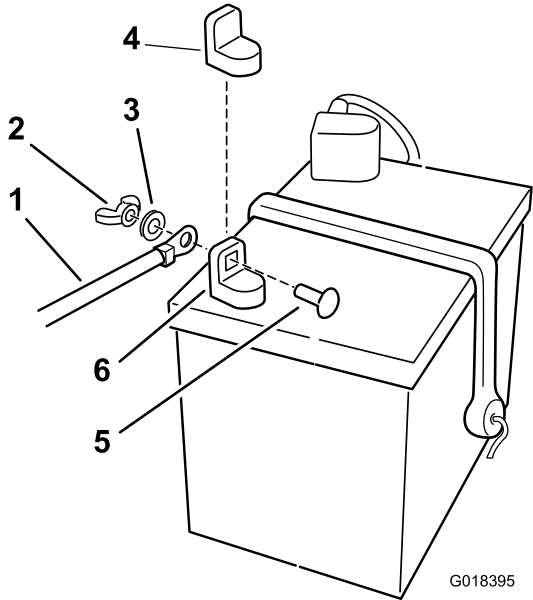

Figure 3
3. Remove the fasteners on the negative battery cable, and use them to secure the negative battery cable to the negative battery post (Figure 3).